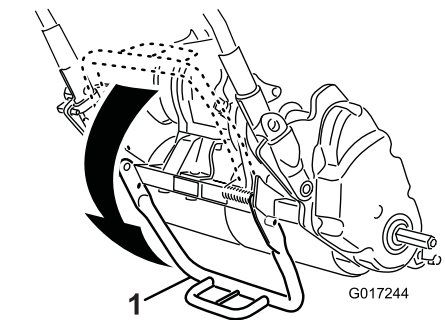

Figure 17
- Push the kickstand down with your foot and pull up on the handle support until the kickstand has rotated forward, over center (Figure 17).